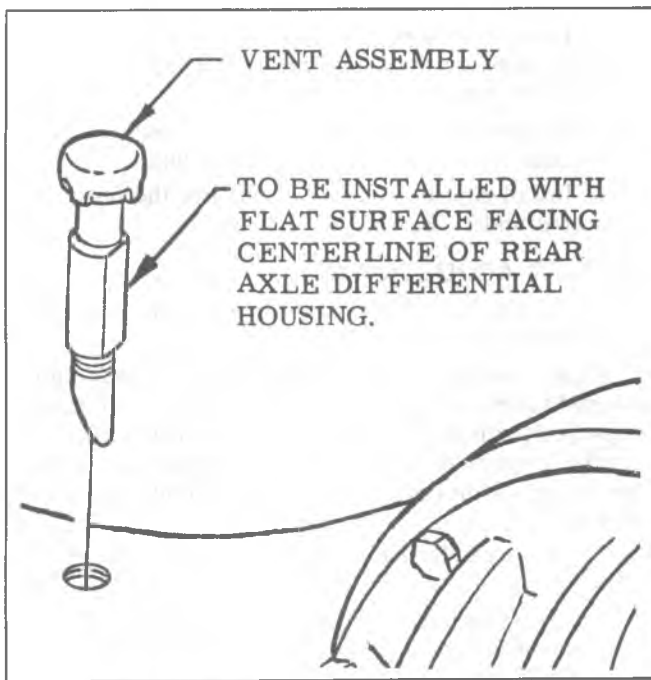

Fig. 4B-36--Typical Axle Vent Installation
3. Use J-22380, as shown in figure 4B-37, to remove outer bearing retainer ring.